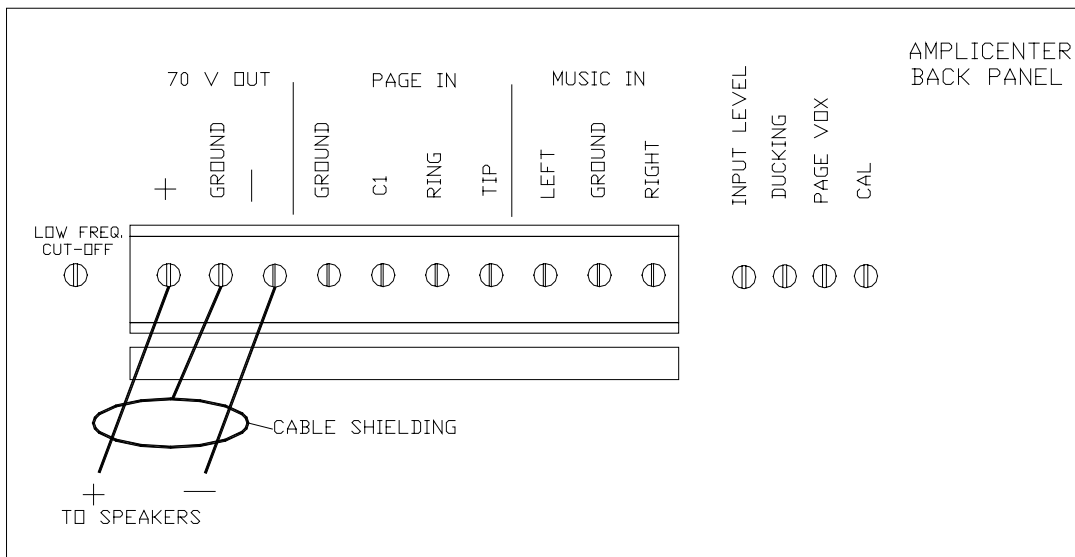

Figure 4. Speaker Connection on AmpliCenter
3. Connect speaker cable to AmpliCenter (see Figure 4).